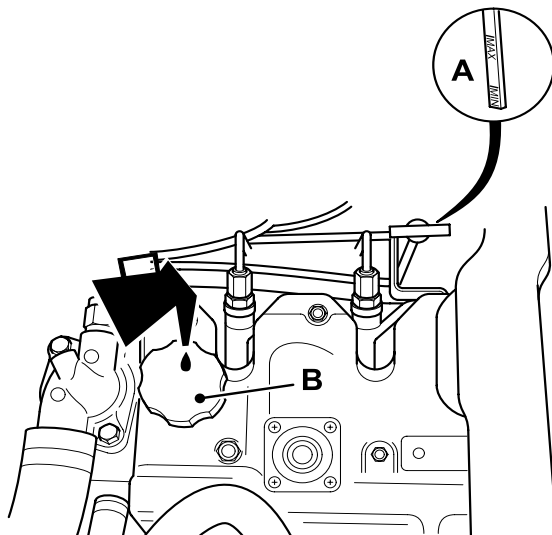

Fig 80.
- 3 Withdraw dipstick and wipe clean, re-insert fully into tube and withdraw to check level. The correct level will show the oil at the top of the hatched area of the dipstick A. ⇒ Fig 80. \(□ 227\)